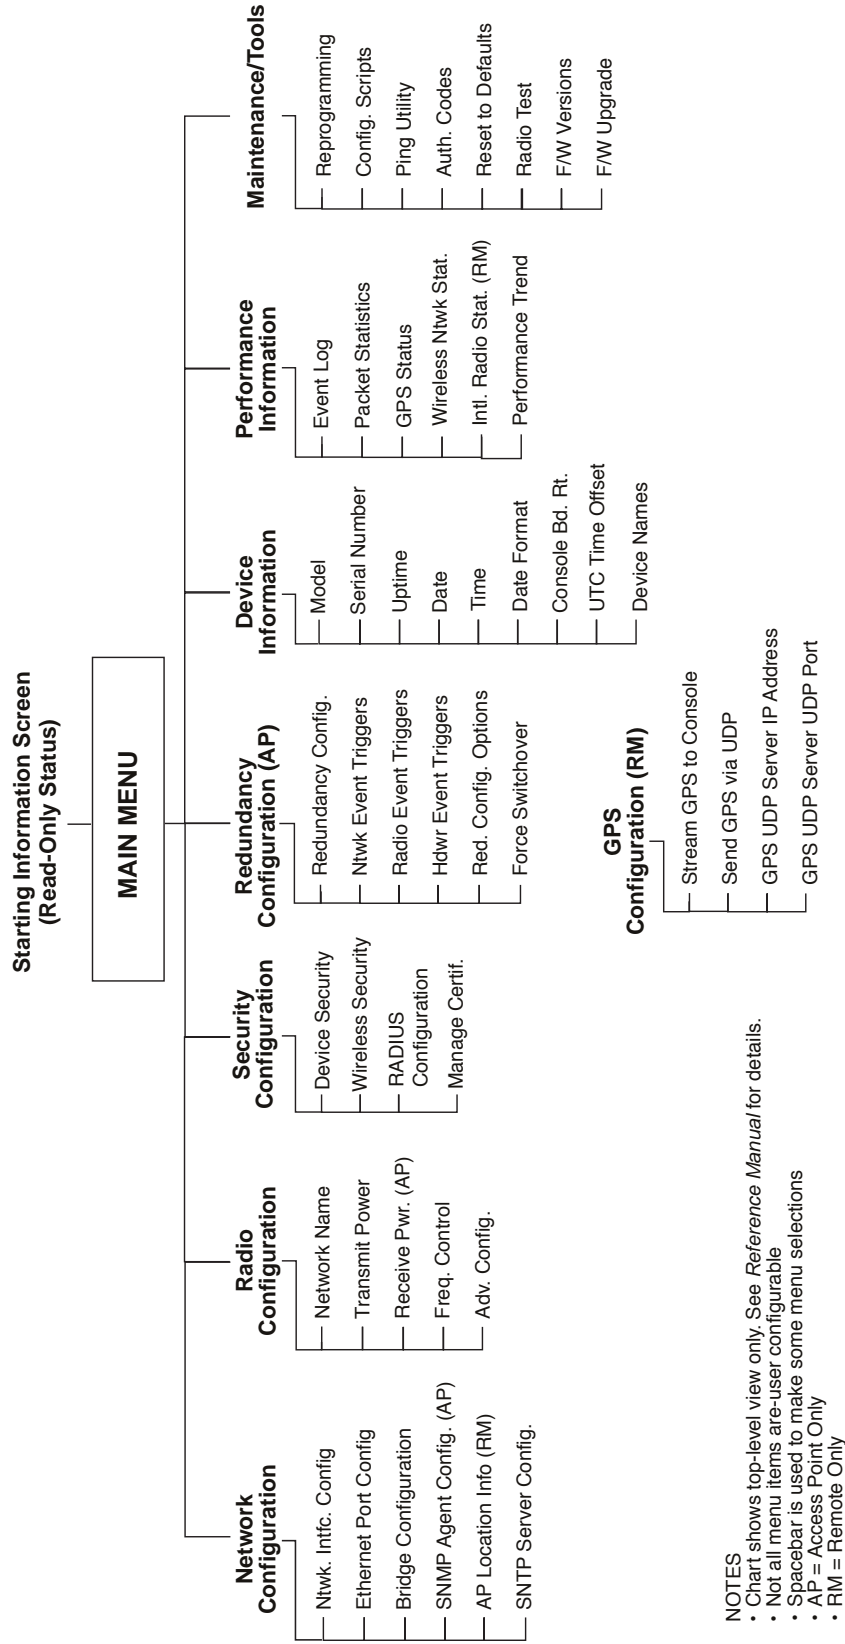

Figure 3-1. Embedded Management System Top-Level Flowchart
Each of these sections has a focus that is reflected in its heading. The section you are now reading provides information on connecting to the Management System, how to navigate through it, how it is structured, and how to perform top-level configuration tasks. Figure 3-1 on Page 34 shows a top-level view of the Management System (MS).